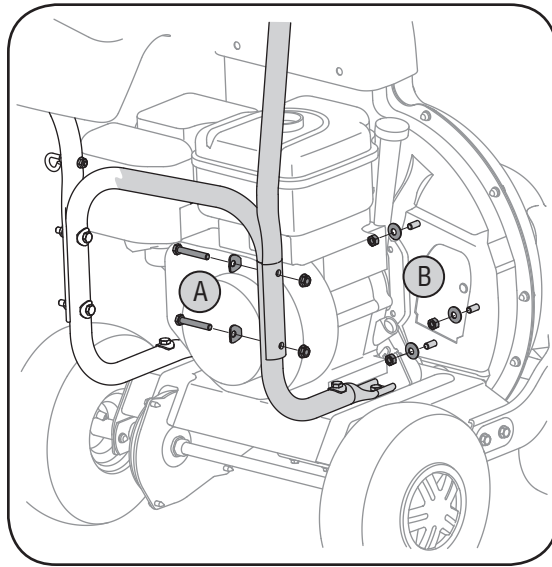

Figure 4
4. a. Remove the two flange nuts, hex bolts and saddle washers which secure the right side of the upper handle to the right side of the lower handle. See Figure 4.
b. Remove the three hex nuts and bell washers from the weld studs beside the opening on the right side of the chipper-shredder vacuum. See Figure 4.